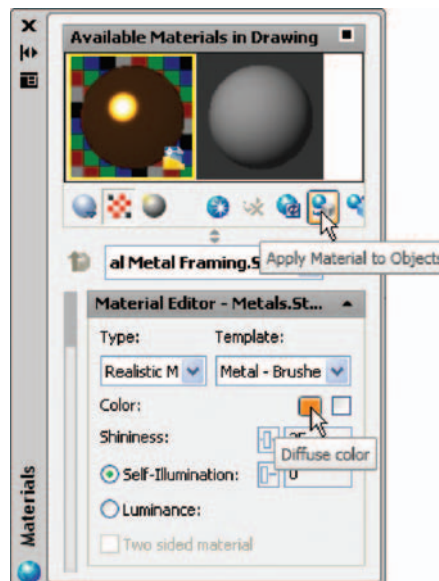

Fig. 15.34 The Materials palette showing the applied material
2. Click The **Materials** icon. The **Materials** palette appears showing an icon of the applied material (Fig. 15.34). In the palettes *click* the
3. Click **Apply Material to Objects** icon (Fig. 15.34).